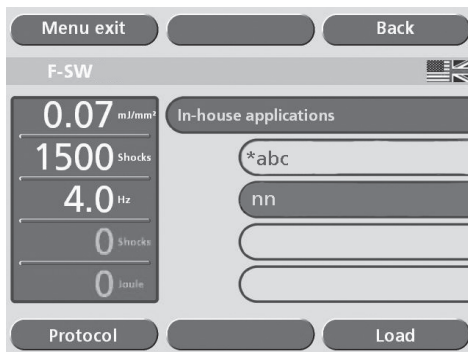

Fig.3-16 Loading a patient record
- Touch the “In-house applications” button (Fig.3-16).